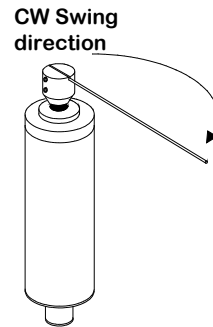

FIG 1.
The PCS-250 Sensor is a self teaching device. It has the capability of swinging Clockwise (CW) or counterclockwise (CCW) up to 300°. The CW or CCW selection is made on the TCU via a dip switch. If you are looking at the sensor with the sensing needle cap facing you, a CW selection will mean that the sensing needle will swing clockwise as shown in FIG 1.